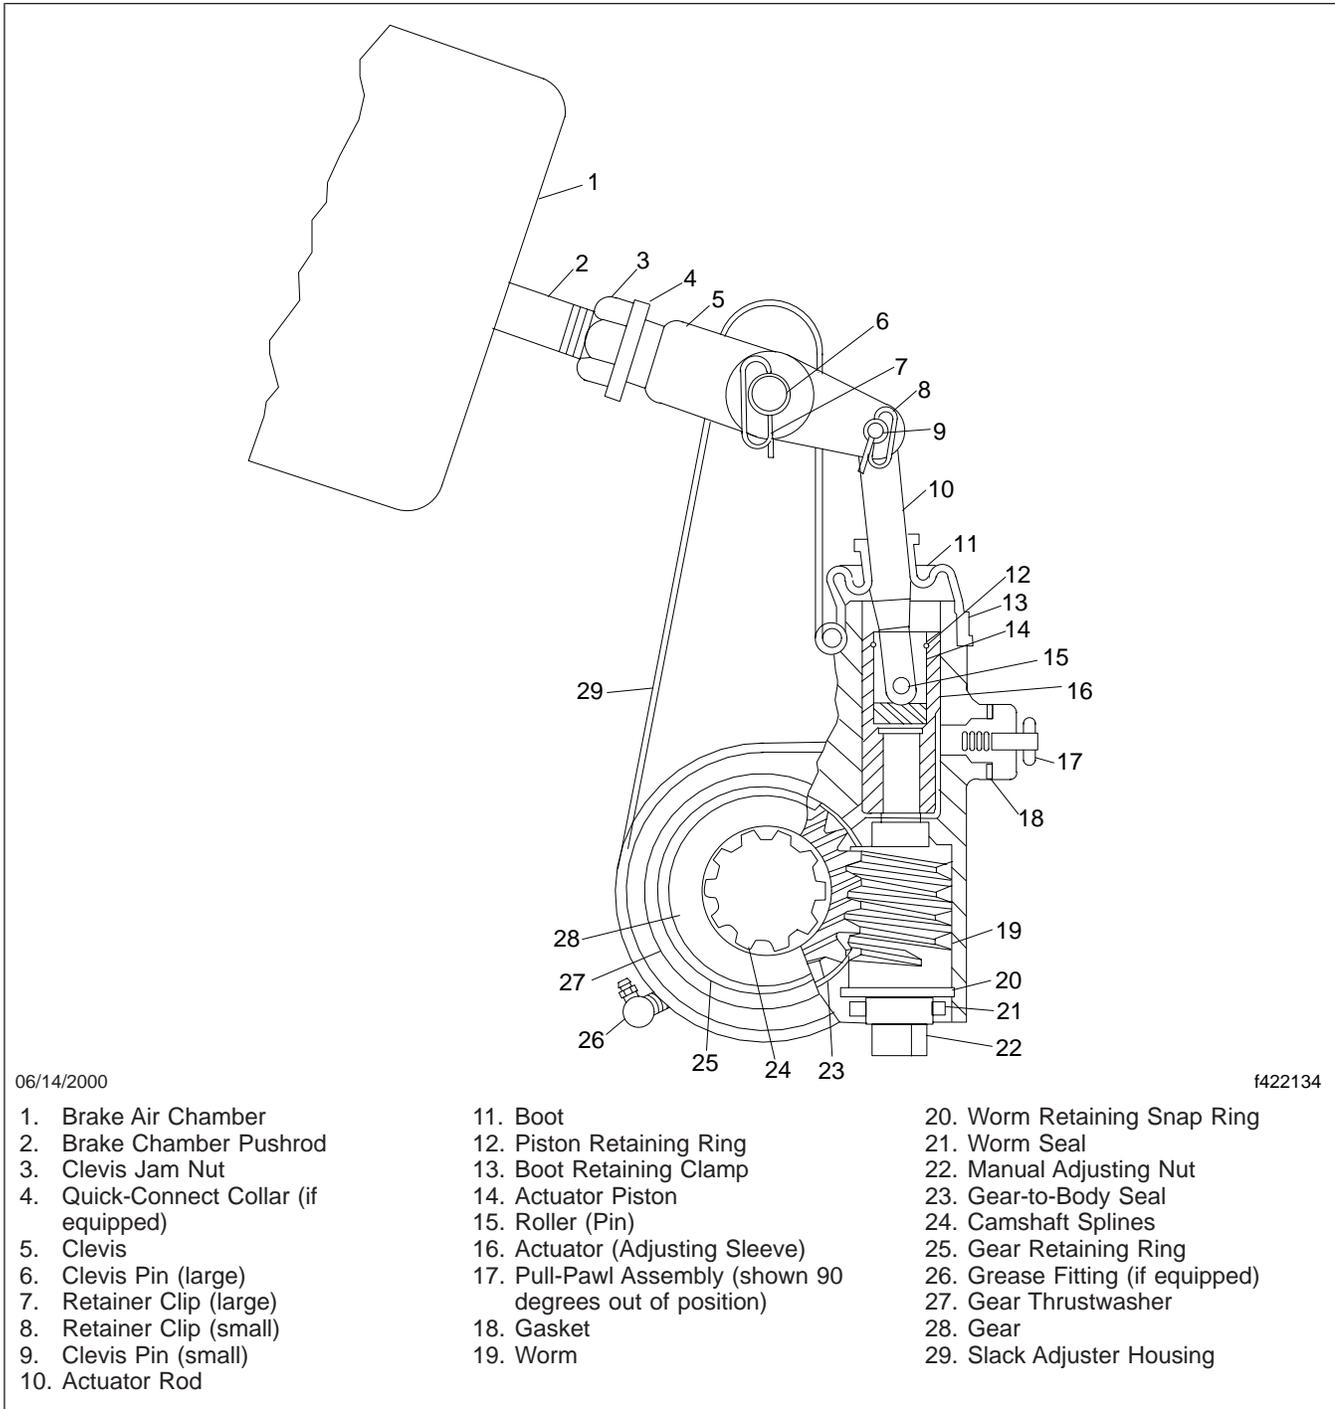

Fig. 1, Meritor Automatic Slack Adjuster
3. Remove the retainer clips from the large and small clevis pins. Remove the clevis pins. See Fig. 1.